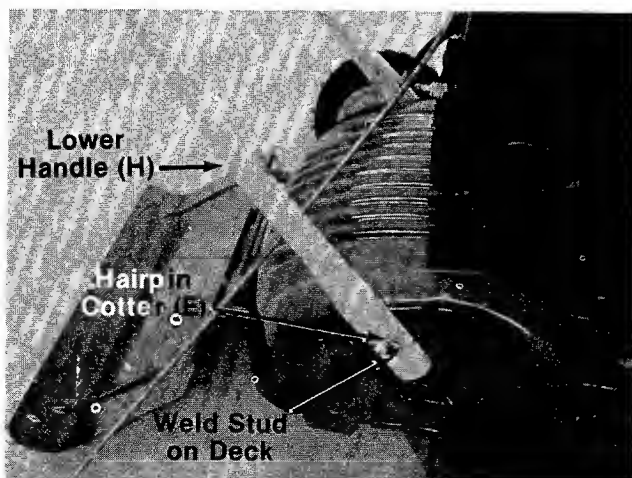

FIGURE 3.
3. Place **TOP SLOTTED** hole in lower handle (H) over studs located in front of each rear wheel. Secure with hairpin cotter (E) provided in hardware pack. See figure 3.
Figure 3 was photographed with the rear wheel removed for clarity. It is not necessary to remove wheel for handle assembly.
Adjustment may be made by removing and moving axle bolts to desired position. Cutting heights will be raised as axle bolts are moved to a lower hole and lowered as axle bolts are moved to a higher hole in the deck. All axle bolts must be mounted in the same relative position. See figure 3.